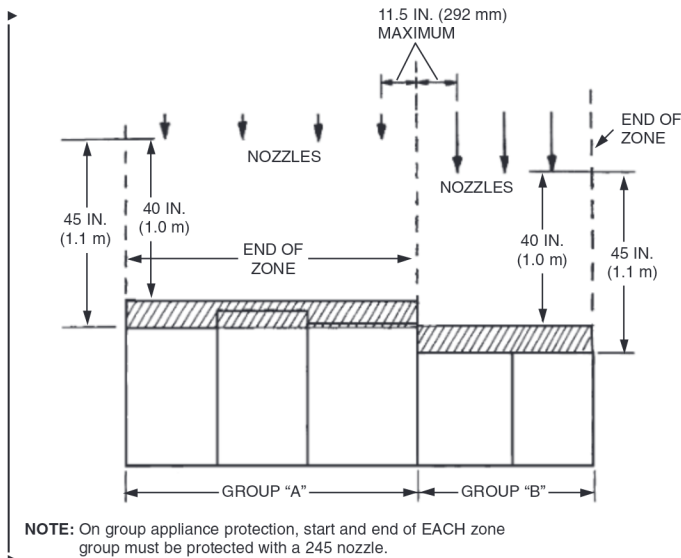

FIGURE 79
- ▶ 4. On protected appliances, all hazard surfaces located in a group must be within 40-45 in. (1-1.1 m) from the nozzle(s). Once that dimension is exceeded, a new group must be started. See Figure 79.